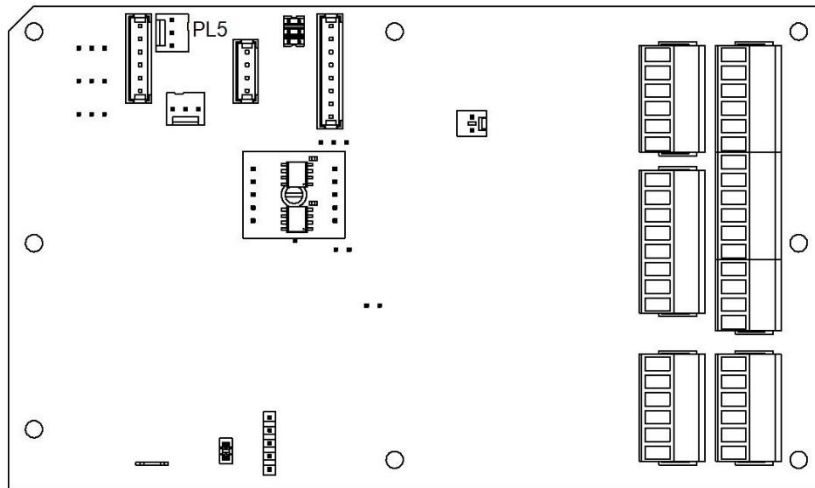

Figure L-4 Disconnection of the UV LED from the analyser pcb2
4. Disconnect the UV LED connector (PL5) from the analyser pcb as shown in figure L-4 below